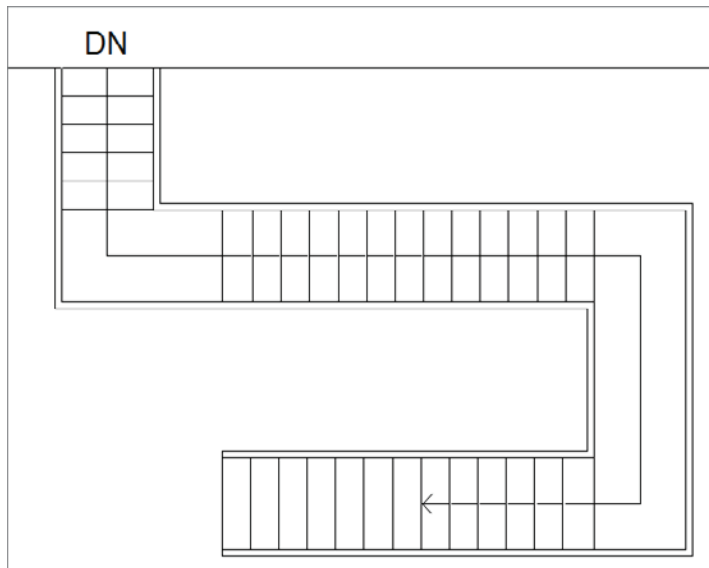

FIGURE 10.67 The stairs in place
6. Click Finish Edit Mode. Your plan should look like Figure 10.67.